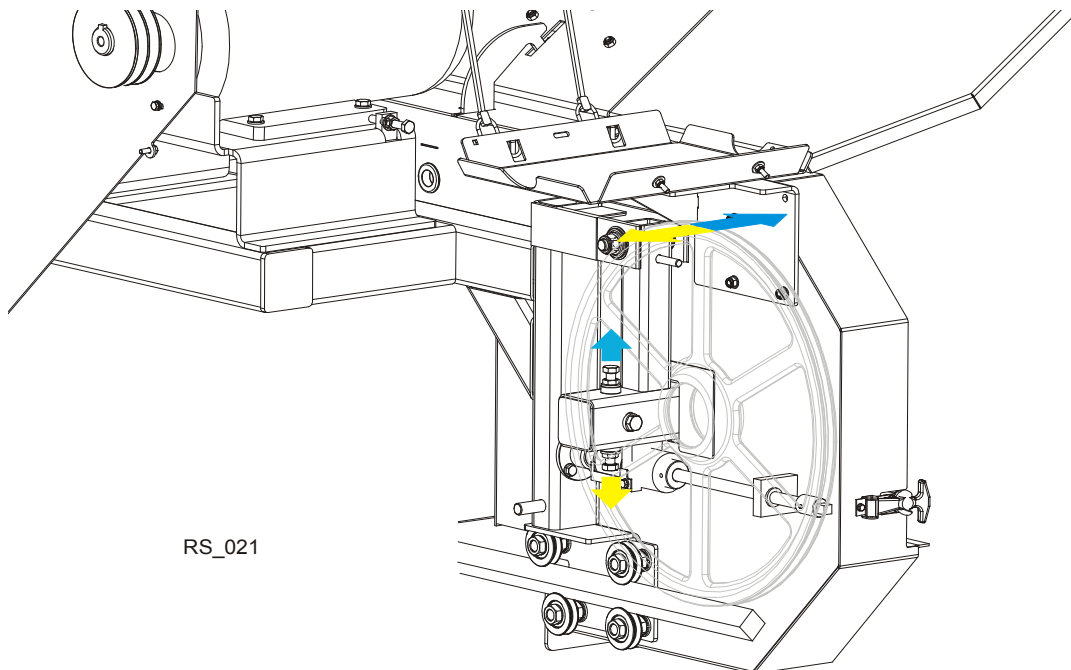

**FIG. 4-4**
**See Figure 4-4.** Use the vertical adjustment screws (marked with the blue and yellow arrows in the figure below) to adjust the drive-side blade wheel. Before adjusting the wheel, loosen the drive belt using the adjustment bolts marked with the orange arrows in the figure. Loosen the jam nut and the hex socket head screw marked with the red arrow in the figure and adjust the wheel with the vertical adjustment screws. To tilt the wheel down, loosen the top adjustment screw one quarter turn. Loosen the jam nut on the bottom adjustment screw and tighten the screw. Tighten the top and bottom jam nuts. To tilt the wheel up, loosen the bottom adjustment screw one quarter turn. Loosen the jam nut on the top adjustment screw and tighten the screw. Tighten the top and bottom jam nuts. Tension the drive belt properly (See Section 3.8).